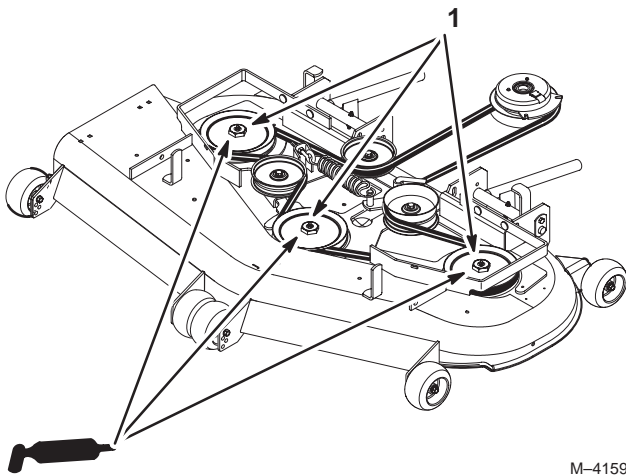

Figure 41
2. Grease the fittings on the three spindle bearings (Fig. 41).
3. Grease the idler pulley pivot (Fig. 41).
4. Grease the fittings on the push arms (Fig. 41).